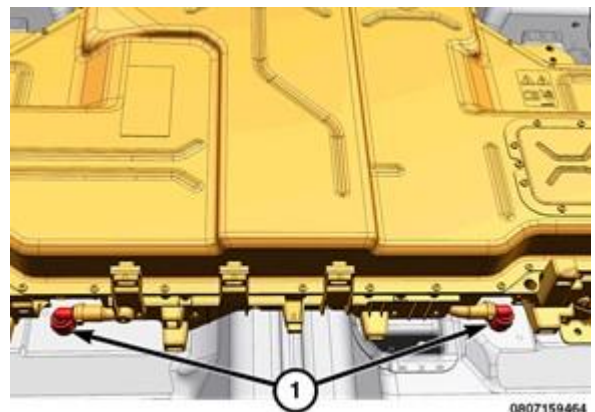

Figure 36 – HV Battery Coolant Connectors
39. Disconnect and plug the HV battery coolant line connectors (1) (Figure 36).
29. Install the chassis ground cable to the HV battery ground stud (1) and tighten to 9N·m (80 in. lbs.) (Figure 36).